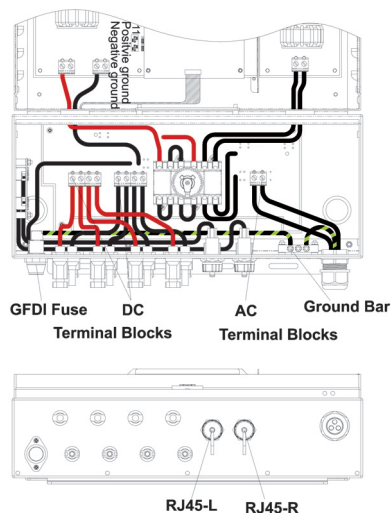

Fig 2.3.5 Wiring box front view
The following three sections describe the wiring for the AC, DC, and communication ports. The wiring shall be done in the wiring box for the SE 2.8i, SE 3.8i, SE 4i, and SE 5i. There is one (1) AC terminal block, a pair of DC terminal blocks and two (2) RJ-45 connectors in the wiring box as shown in the figure 2.3.5. The AC terminal block is used to connect to the utility grid through a circuit breaker and distribution panel according to national and local requirements. The DC terminal blocks are used to connect up to 4 PV strings in parallel in the wiring box. The RJ-45 connectors are used for external communication to a remote computer or terminal.